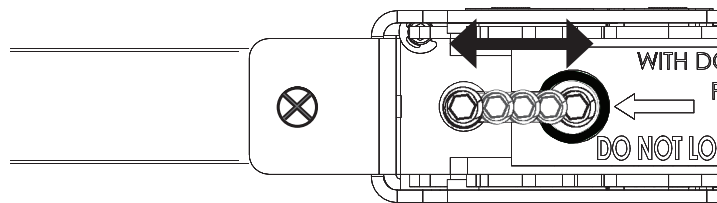

Figure 47
- Insert mortise trim in the door prep and cassette and rotate to verify latches fully retract (Figure 47).